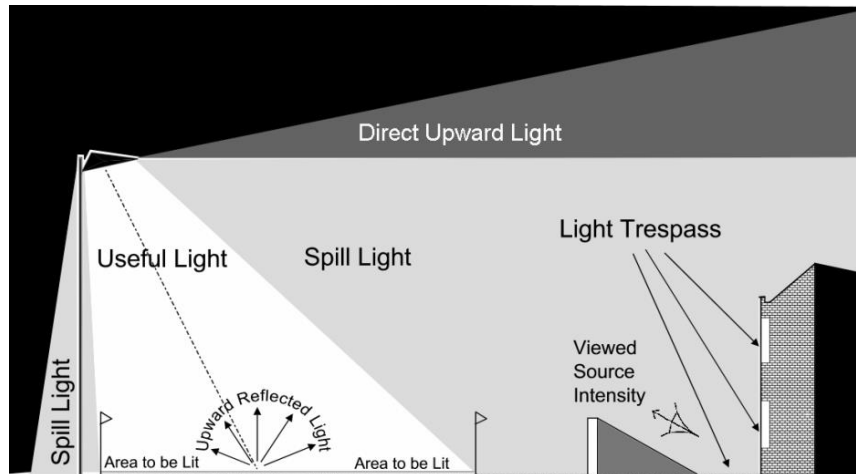

Figure 3: Light trespass
- c. Glare and excessive contrast caused by poorly shielded luminaires and over-lighting will not be allowed. Fit “full cut-off” luminaires to limit the amount of light trespass and spillage to control light output and restrict glare (Shaflik, 1997) (as illustrated in Figure 3: Light trespass)